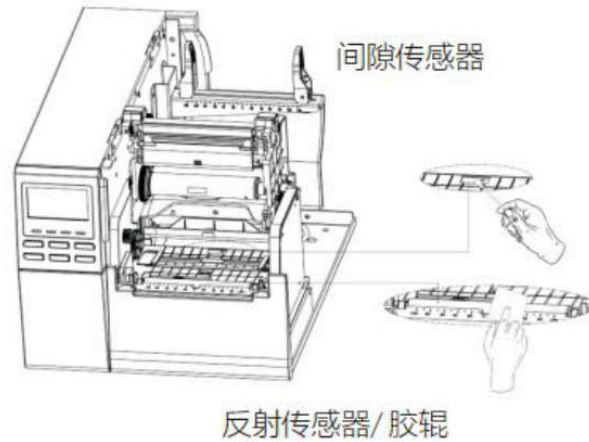

图21
2. 如图 21，使用一块蘸有无水酒精的软布擦拭清洁胶辊。
- As shown in Fig. 21, use a soft cloth moistened with anhydrous alcohol to wipe and clean the platen roller.